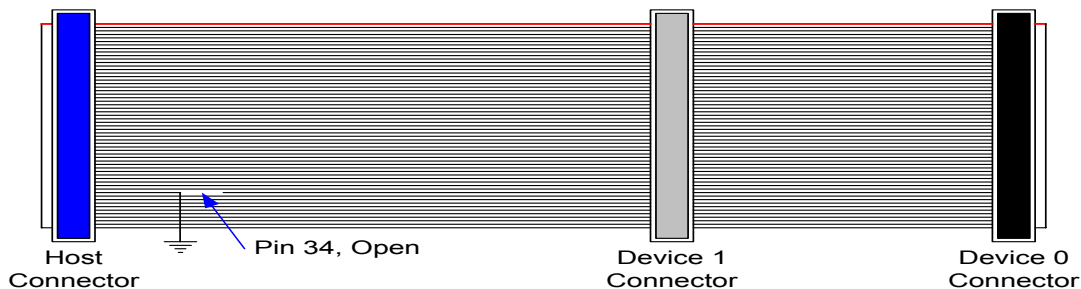

Figure 4. A standard 80-conductor IDE cable (to work with Ultra ATA 66/100 drives. The Pin 34 of the Host connector is grounded)
This paragraph offers important guidelines for using your IDE cables. The Ultra ATA 66/100 transfer modes require an 80-conductor cable (as shown in **Figure 4. A standard 80-conductor IDE cable**) whereas Ultra ATA 33 and below (including PIO) only demand a 40-conductor cable (as shown in **Figure 5. A standard 40-conductor IDE cable**).
To determine if Ultra ATA 66/100 can be enabled, the system software will attempt to determine the cable type used in the system through **Pin 34** of the Host connector as shown in **Figure 4. A standard 80-conductor IDE cable**. If the system software detects an 80-conductor cable through Pin 34, the system may use any one of all the available transfer modes up to the highest transfer mode supported by **both** the system chipset and the IDE device. If a 40-conductor cable is detected, the system software can NOT enable transfer faster than Ultra ATA 33.
6. Using the enclosed 80-conductor with three IDE connectors cable, connect the host connector end (see figure 4) to either the Primary IDE or the Secondary IDE channel on the motherboard, connect the device connector end (see figure 4) to the Secure PCI Adapter (Device 0 connector is for a Master drive. Device 1 connector is for a Slave drive.).